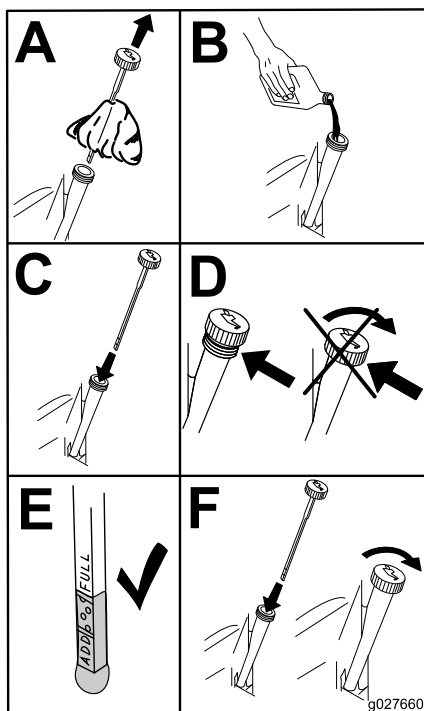

Figure 54
5. Slowly pour approximately 80% of the specified oil into the filler tube and slowly add the additional oil to bring it to the FULL mark (Figure 54).